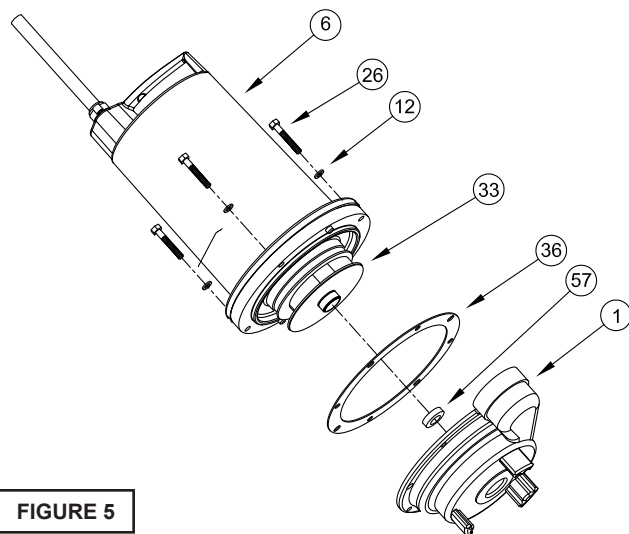

FIGURE 5
To install impeller (33), clean the threads with thread locking compound cleaner. Apply removable Loctite® 603 or equivalent to shaft threads. Screw impeller onto the shaft hand tight while using a screwdriver in the slot at the end of the shaft to hold it stationary. It is important that the spring of the lower shaft seal (28) seats in the hub of the impeller (33). Rotate impeller to check for binding. Install U-cup (57) by first applying adhesive to bore of volute (1). Be sure not to get adhesive on inside diameter of U-cup (57). Position gasket (36) on volute flange and position impeller and motor housing on volute (1). **CAUTION: When assembling volute (1) to rest of the pump be sure the inside lip of the U-cup (57) is not pushed out of place (see Figure 5).** Position lockwasher (12) on cap screw (26) and screw into volute (1). Torque to 100 in-lbs. Check for free rotation of motor and impeller.